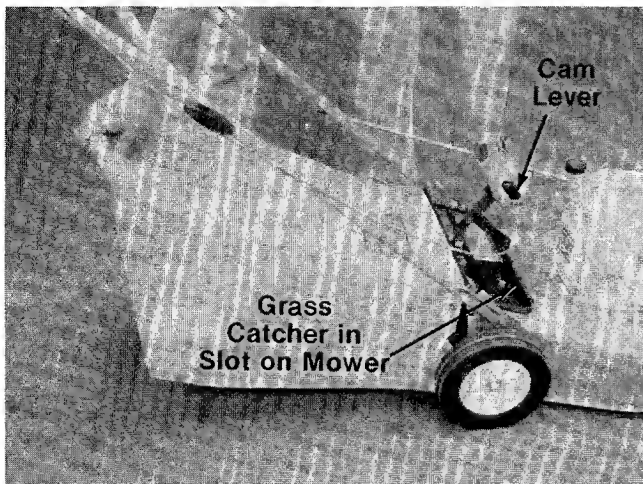

FIGURE 13.
1. Attach the grass catcher frame to the front of the adapter as shown in figure 13.